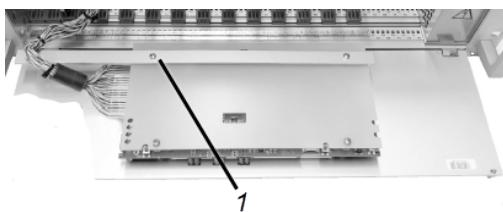

Figure 77
- b. The protection rail has to be attached to the MDO20 at the front panel by 2 screws M3x10 (torque 1 Nm), see Figure 77.